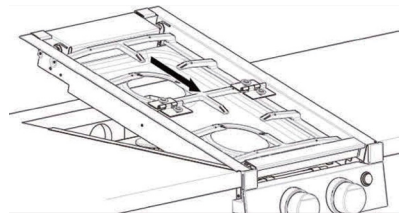

FIG. 6
7. Push to insert the top glass assembly. (Fig. 6/7)